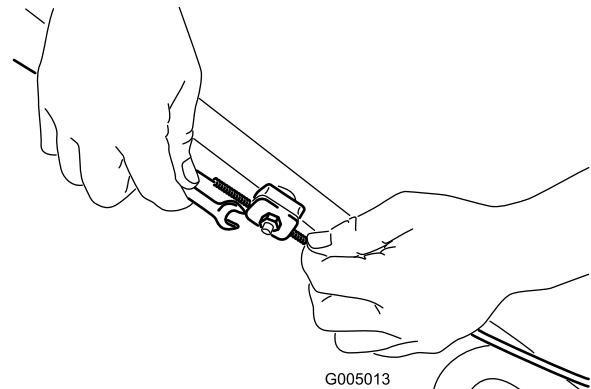

Figure 27
1. Loosen the cable support nut (Figure 27).